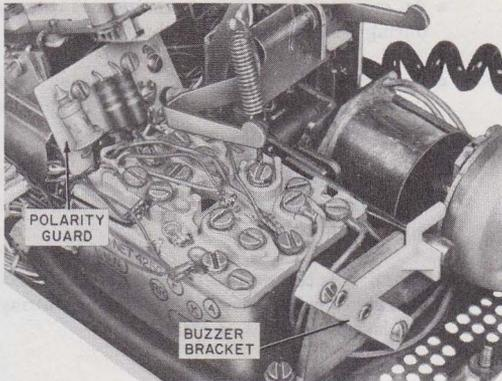

Fig. 12—P-90D052 Guard Assembly, Installed
2.33 Mount the P-90D052 guard assembly to the right dial mounting bracket as shown in Fig. 12.